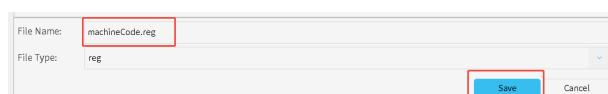

Figure 1-5: The File for Configuring Machine Code
4. Tap the icon on the right side of the machine code. If the file shown in **Figure 1-5** appears, tap [Save].